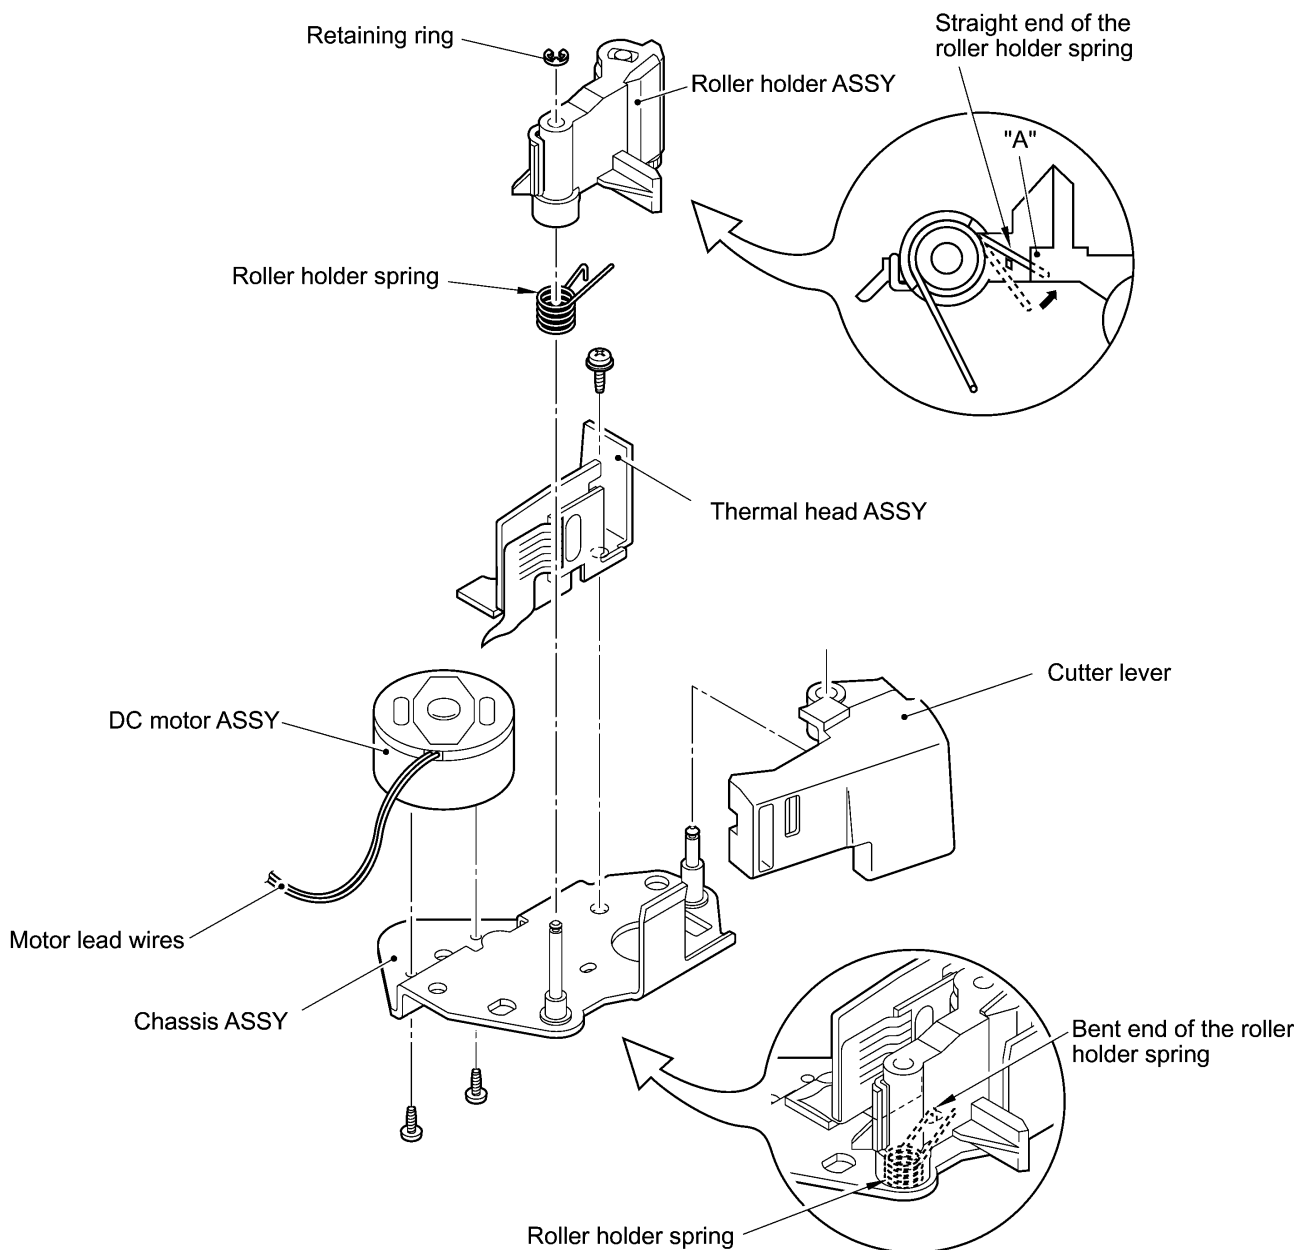

Figure 2.2-20 Assembling the Components of the Chassis ASSY
- (1) If the chassis ASSY has been disassembled, assemble the components, referring to page II-20.
- (2) As shown in Figure 2.2-20, fit the cutter lever onto the shaft on the chassis ASSY.
- (3) Put the chassis ASSY with the cutter lever back into the bottom cover.
- (4) Secure the chassis ASSY with three screws. One of those screws should also secure the FG wire.